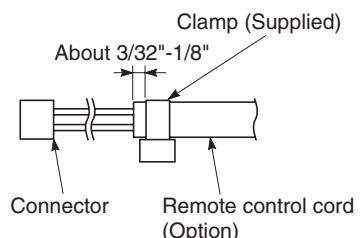

Fig. 1-100
- Connect the remote control cable (option) to the signal receiving unit connector as shown in Fig. 1-100 after the clamp (supplied) with the unit is installed.